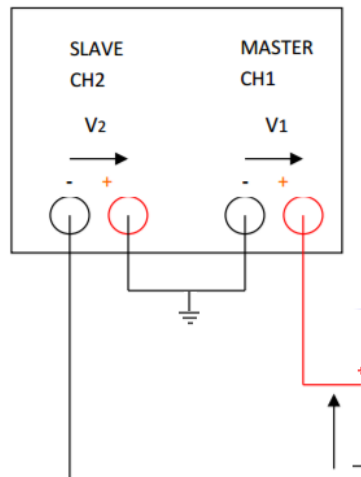

Figure 6-Dual supply connection
- Independent mode means that the two channels are regulated independently, while in tracking mode the Master channel (usually the 1) voltage knob, regulates also the voltage on channel two (Slave) to the same value. This is useful when a dual supply is needed (i.e. for operational amplifiers), connecting the outputs as shown in Figure 6.